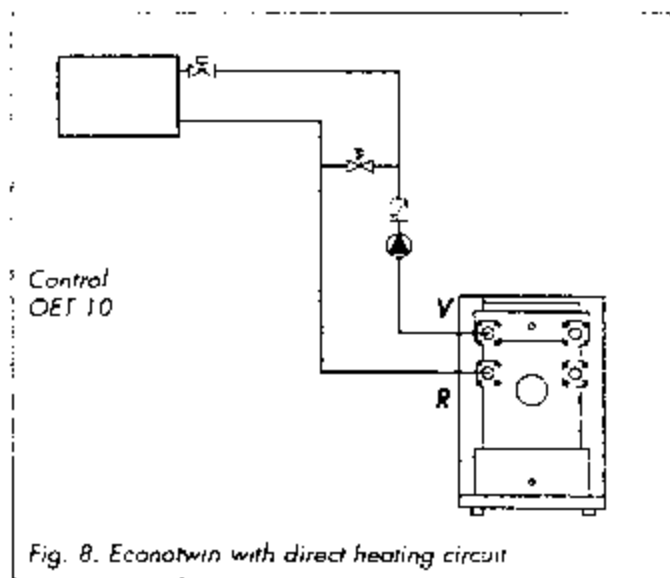

Fig. 8 Econotwin with direct heating circuit
- Connect up the heating circuit correctly - Figs 8 to 12 show sample layouts for the hydraulic connection of the Econotwin.